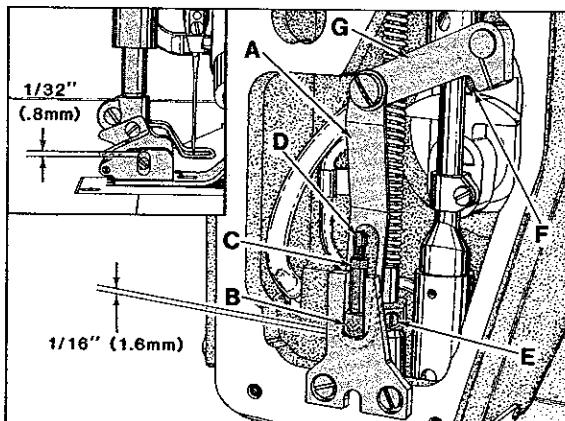

Fig. 18
With needle bar at bottom of stroke and presser foot resting on throat plate, there should be  $1/32$  inch (.8mm) clearance between top of screw and top of slot in presser foot as shown in Fig. 18. There should be  $1/16$  inch (1.6mm) clearance between bottom of slot in lifter lever link (A) and bottom of presser bar guide (B) when foot lifter lever is released.